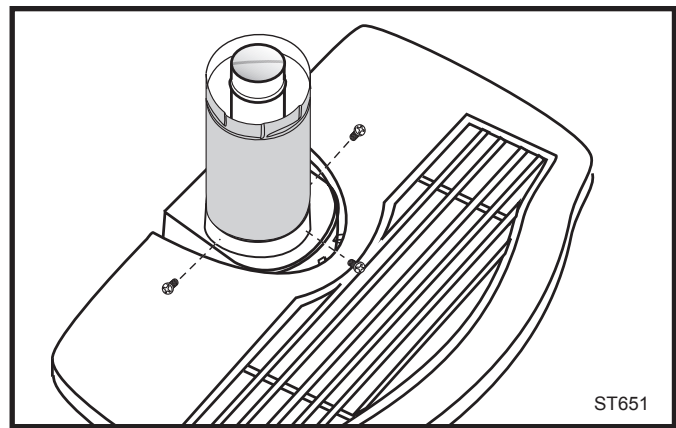

Fig. 23 Simpson Dura-Vent - install outer adapter pipe.
3. **Install the Outer Adapter Pipe.** Orient the vertical seam to the rear, and insert the crimped end of the outer pipe into the flue collar. Fasten with three sheet metal screws provided. (Fig. 23)